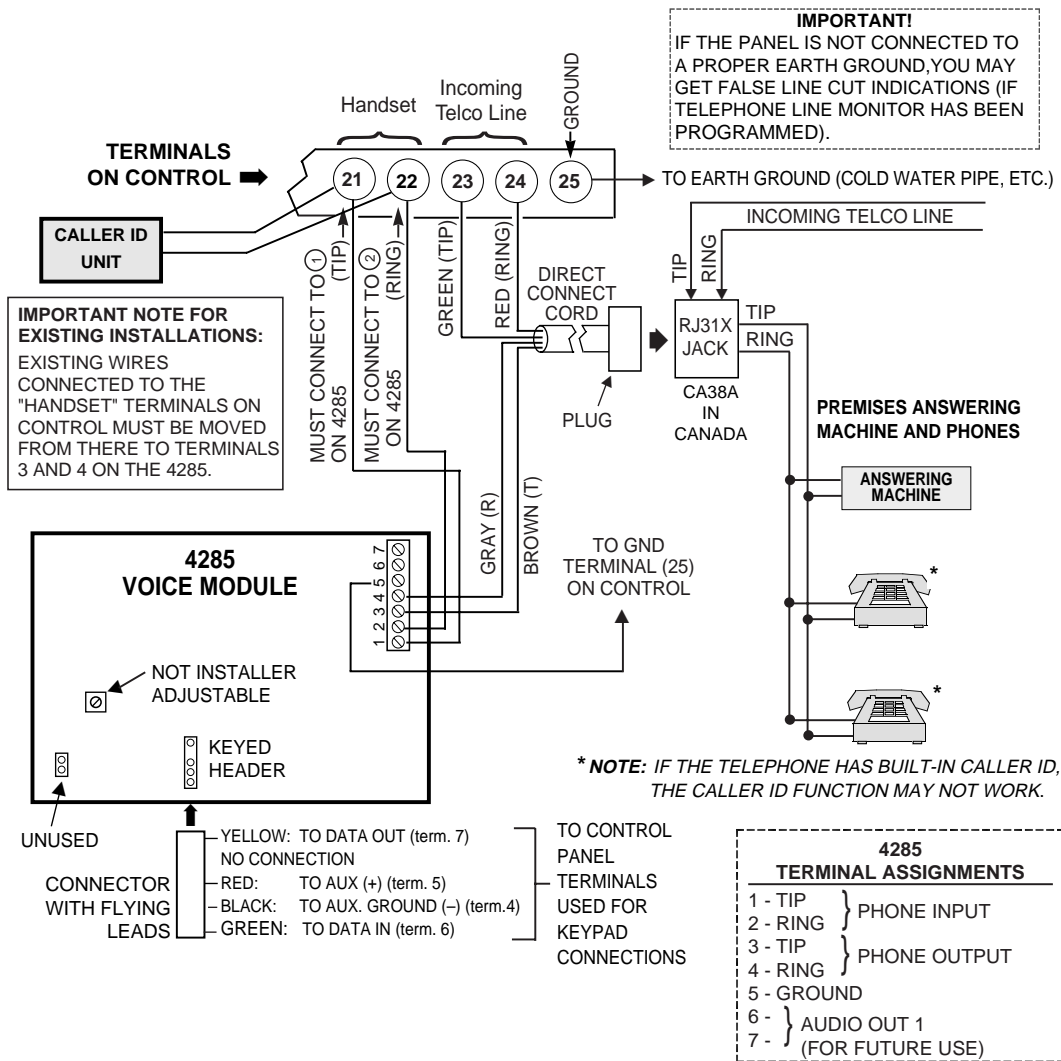

Figure 16. FA4285 Phone Module Wiring Connections
1. Make 12V (+) and (-) and data in and data out connections from the Phone Module to the control, using the connector cable supplied with the Phone Module (see Figure 16).